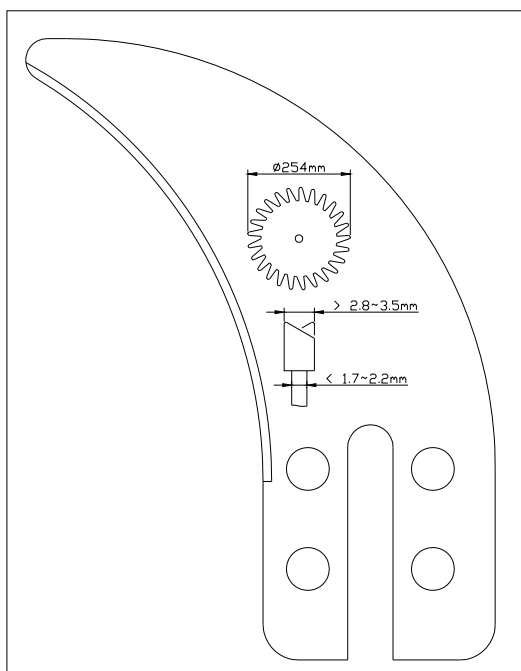
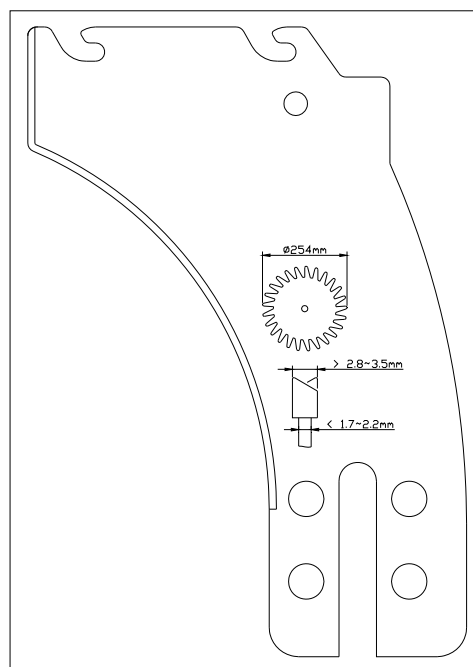

Fig.2-2
Fig.2-3
2. Please use the standard blade according to the specification mark on the blade as Fig.2-2 & Fig.2-3 :